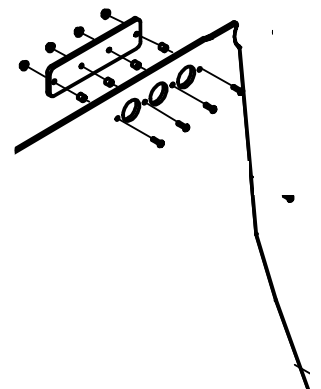

FIG. 12
- C. Assemble vent plate over 3 large diameter air holes. Use (black ABS) spacers between plate and center divider. Secure using the long, Phillips head screws, black whiz nuts, and black caps. (See fig. 12)